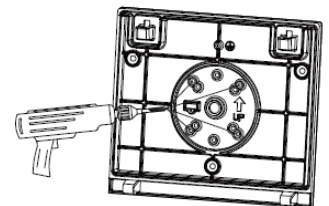

Fig. 1.4
5. Use an electric drill to drill the mounting holes on the mounting plate of the luminaire (Fig. 1.4).